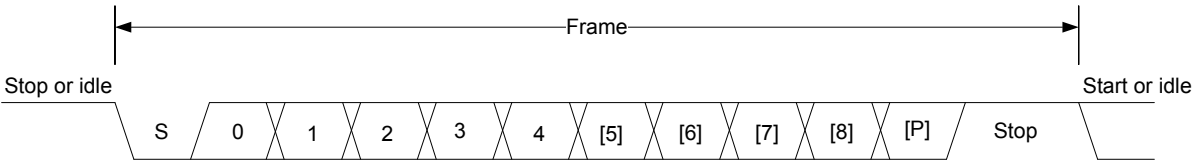

Figure 21.2. Frame Format
The frame format used in asynchronous mode consists of a set of data bits in addition to bits for synchronization and optionally a parity bit for error checking. A frame starts with one start-bit (S), where the line is driven low for one bit-period. This signals the start of a frame, and is used for synchronization. Following the start bit are 7 to 9 data bits and an optional parity bit. Finally, a number of stop-bits, where the line is driven high that indicates the end of the frame. An example frame is shown in Figure 21.2 Frame Format on page 622.